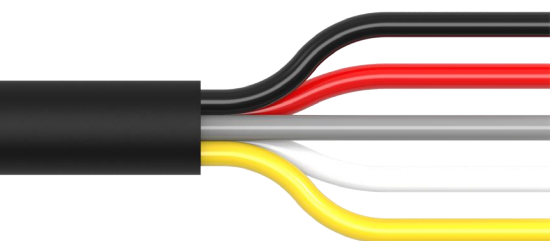

FIG. 4
1. Plug the provided 5 Core Pigtail (F) into the switch connector on the Main Harness (A). See Fig. 4 for individual wire functions.